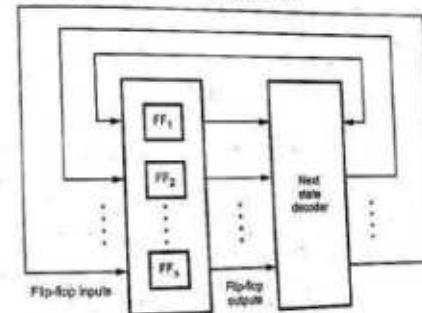

Fig. 5.11.1 Basic structure of a sequence generator
- A sequential circuit which generates a prescribed sequence of bits, in synchronism with a clock, is referred to as a sequence generator. Fig. 5.11.1 shows the basic structure of a sequence generator using counters.